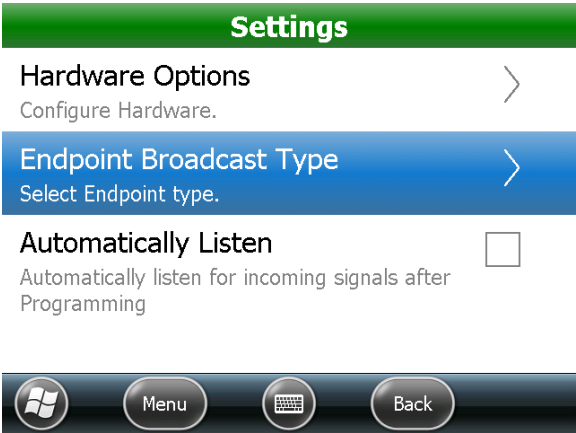

Figure 51: Broadcast Type
1. On the Settings menu, tap **Endpoint Broadcast Type** (Figure 51).